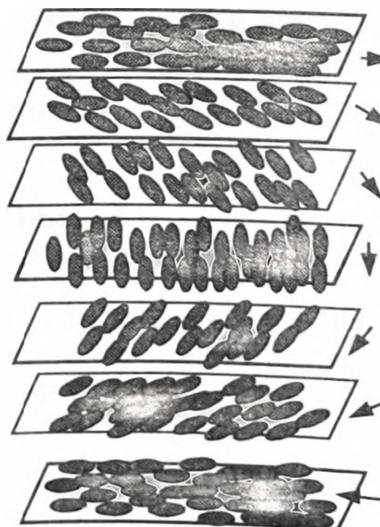

Fig. 1.10.3. Chiral nematic liquid.
- c. This phase shows nematic ordering but the preferred direction rotates throughout the samples. An example of this is shown in Fig. 1.10.3.